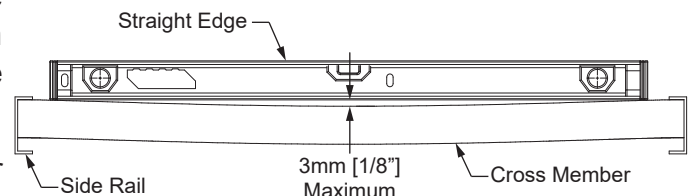

Figure 2
4. Use the straight edge again to check that the tops of the cross members are level with each other. Fix/replace any that are off more than 3mm [1/8"]. Low cross members can be shimmed to bring them to the level of the surrounding cross members (fig. 2 & 3).